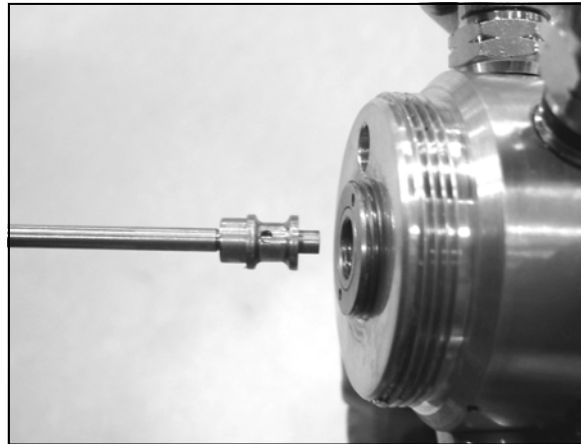

Figure 18
3. Next, using the same technique, insert the brass fluid seal spacer (See Figure 18).